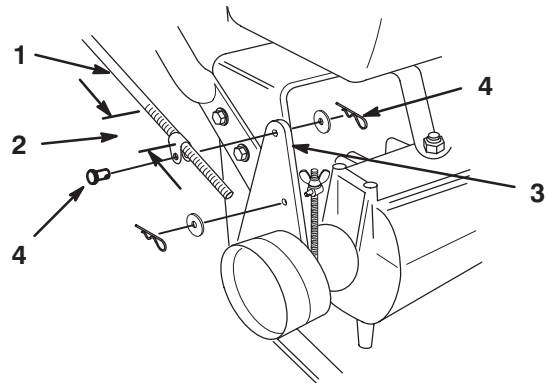

Figure 7
1. Thread rod fittings equal distance onto each control rod. For a starting point, thread fittings on approximately 1-3/4 in. (44 mm) from the start of the threads (Fig. 7).
2. Slide clevis pins through rod fittings and mounting holes in idler brackets (from outside) (Fig. 7). Secure with washers and hairpin cotter (Fig. 7).